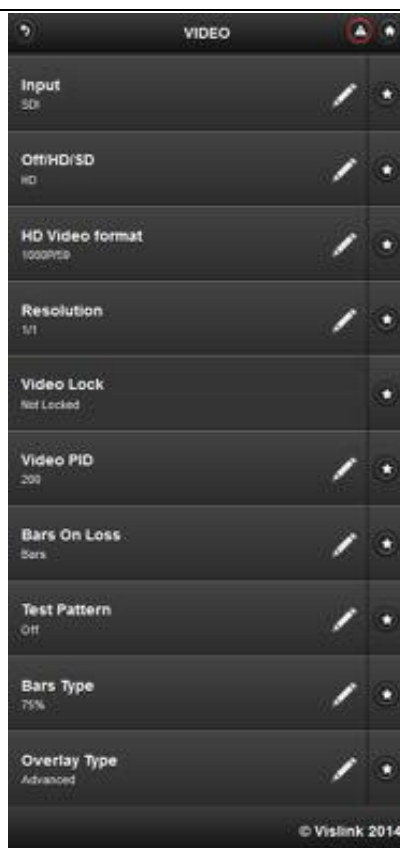

Figure 4-7 Favoursites Menu Example
18. Figure 4-7 shows a representative favorites menu.